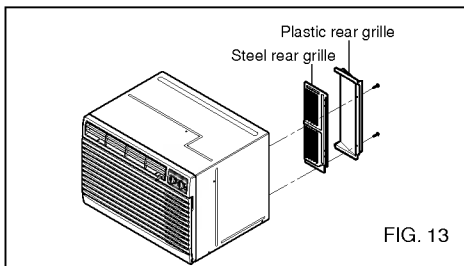

FIG. 13
- 7** Remove the backing from the support blocks and attach them to the inside of the wall sleeve as shown FIG 13. Slide the baffle into slots of the support blocks.